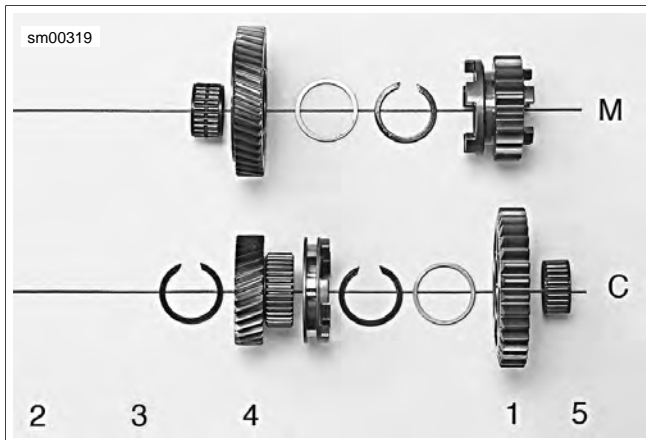

Figure 5-61. Transmission Parts Identification
- See Figure 5-61. As each component is removed, place it on a clean surface in the exact order of removal.